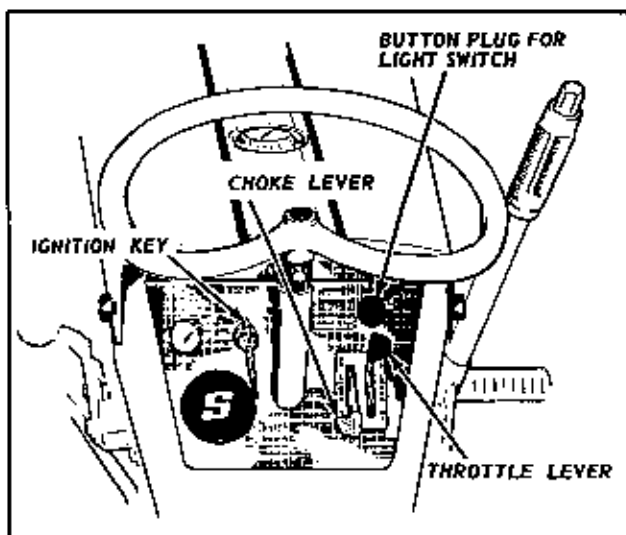

Figure 1
This tractor is shipped completely assembled except for the steering wheel. Position the wheel on the steering post as shown, Fig. 1, and secure with the 5/16" screw and lock nut provided. NOTE: On electric start models, install the battery before assembling the steering wheel.
2. Turn the ignition key, Fig. 1, to the "ON" position.
4. Move the choke lever, Fig. 1, to the "ON" position, and move the throttle lever, Fig. 1, to about 1/3 open.